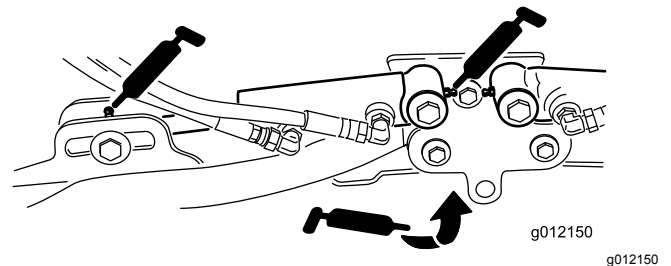

Figure 62
- Cutting unit lift arm cylinders (2 each) (Figure 62)
- Lift arm pivots (1 each) (Figure 62)